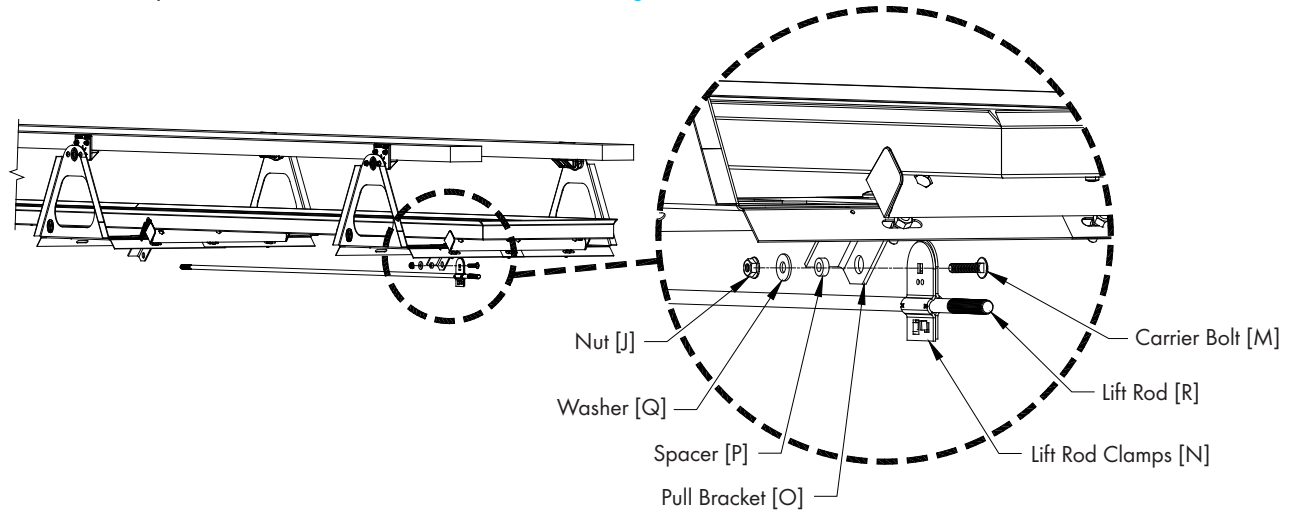

Figure 13
Install (1) Lift Rod [R] to the Pull Bracket [O] on the first Lift Point so that the end of the rod is 3" from the Pull Bracket towards the Actuator using (2) Lift Rod Clamps [N], (1) KS1500 Carrier Bolt [M], KW3046 Washer [Q], KX1309 Spacer [P] and (1) KN0730 Nut [J]. See Figure 13.